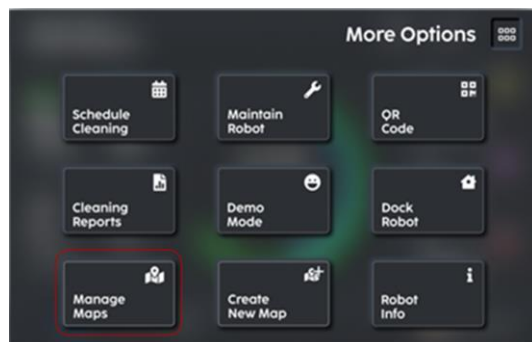

FIGURE 8-4
1. Access the map of the facility by clicking the 'Manage Maps' option in the More Options (Fig. 8-4).